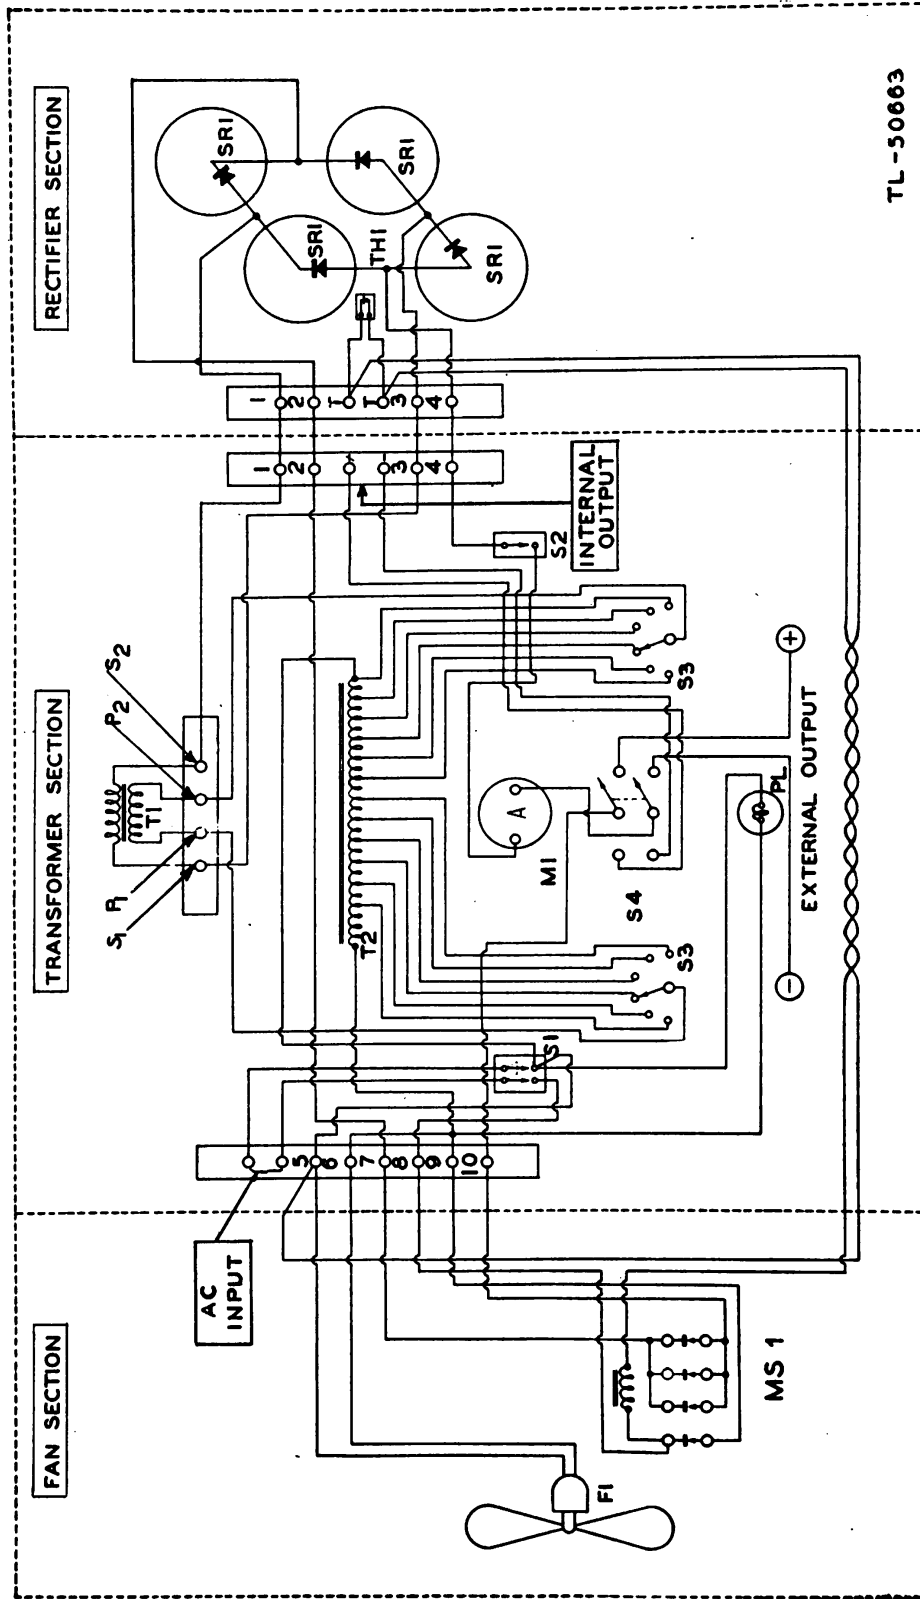

Figure 3. Rectifier Power Unit PP-34/MSM, schematic diagram.
8. CIRCUIT. The schematic diagram of Rectifier Power Unit PP-34/MSM is shown in figure 3.
10. RECTIFIER. Rectifier SR1 consists of four rectifier stacks, made up of selenium rectifying disks. They are assembled so that current can flow readily in one direction, but practically not at all in the other direction. The rectifier stacks are connected together in the form of a diamond, commonly called a bridge circuit, giving full-wave rectification. The rectifier changes the alternating current to pulsating direct current for charging storage batteries. The rectifier stacks are protected against overheating by a thermal switch TH1 (fig. 3) which opens the circuit-breaker.
a. An ohmmeter may be employed for continuity testing. When using an ohmmeter, it is important that all sources of power be disconnected from the equipment to be tested. Resistance values across transformer T1 and autotransformer T2 (fig. 3) are small, ranging from a fraction of an ohm to 2 or 3 ohms. Resistance values across the selenium rectifier stacks will be a few ohms or several thousand ohms, depending on the polarity of the test leads from the ohmmeter, as applied to the terminals of the rectifier stack.
b. The following data is useful in checking the rectifier circuits. All measurements were taken at the secondary winding, S₁ and S₂, of power transformer T1 (fig. 3). Voltage readings in the following table were taken with a 115-volt input and no load on the equipment. Tap switches S3 (fig. 3) are set at extreme counterclockwise position for initial reading, and are rotated clockwise for successive readings.